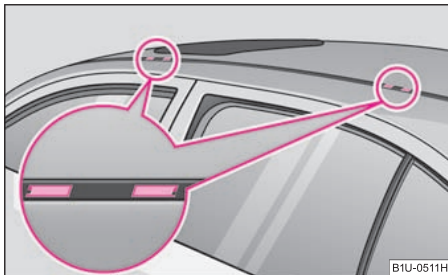

Fig. 85 Attachment points for base roof carrier
- The plastic caps ⇒ fig. 85 can be removed by inserting a thin screwdriver into the recess of the caps and carefully lever out the caps to avoid paint damage.